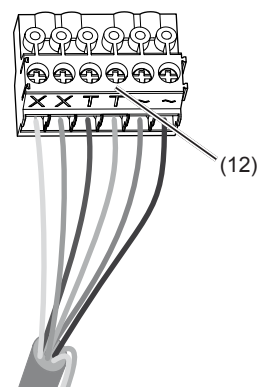

Figure 8: wired connection terminal block
- Pull off connection terminal block (12) from the audio insert.
- Connect the 2-wire bus cable to the terminals **XX** of the connection terminal block (Figure 8).
- Connect door release to the terminals **TT** of the connection terminal block (figure 8 and 9) if required.
- For call push-button backlighting connect 12 V~ lead from the power transformer to the terminals **~** of the connection terminal block (Figure 8 - 10).